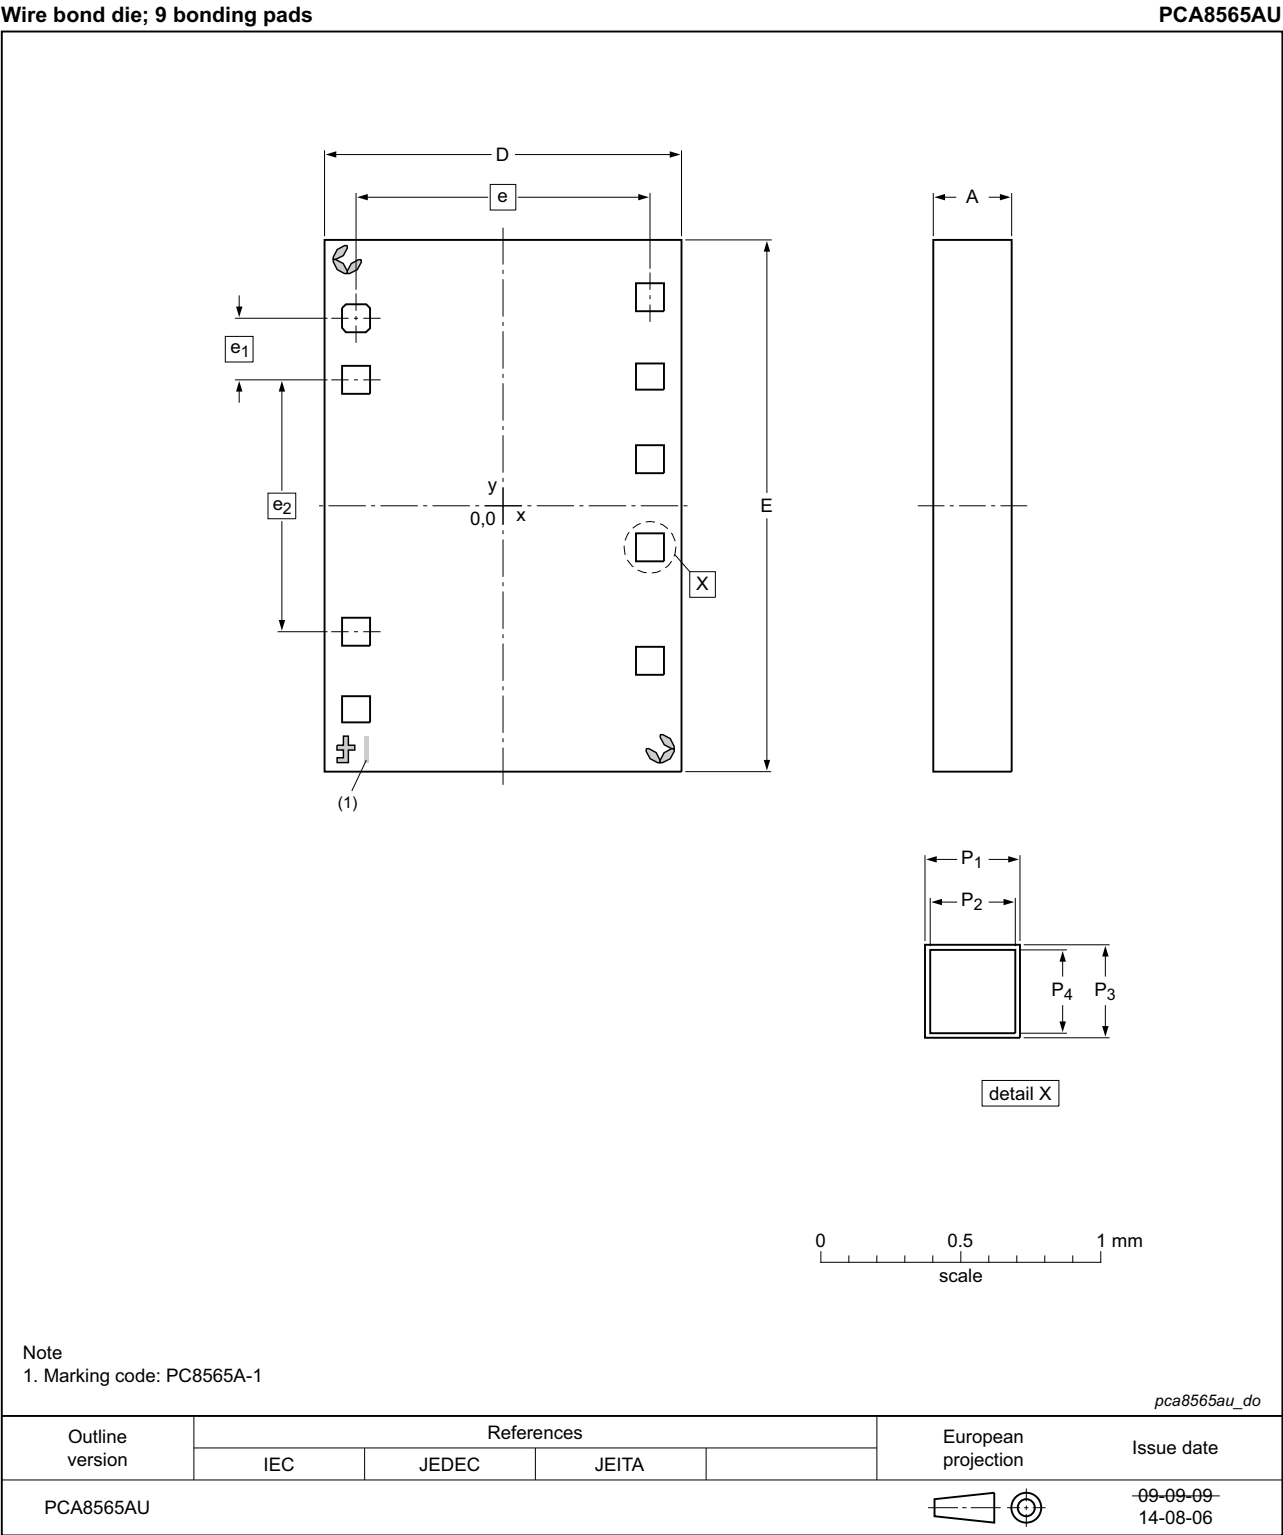

Fig 24. Bare die outline
Table 35. Pin descriptionAll x/y coordinates represent the position of the center of each pad with respect to the center (x/y = 0) of the chip; see Figure 24.
**Fig 25. Alignment marks****Table 36. Alignment mark description**All x/y coordinates represent the position of the REF point (see Figure 25) with respect to the center (x/y = 0) of the chip; see Figure 24.